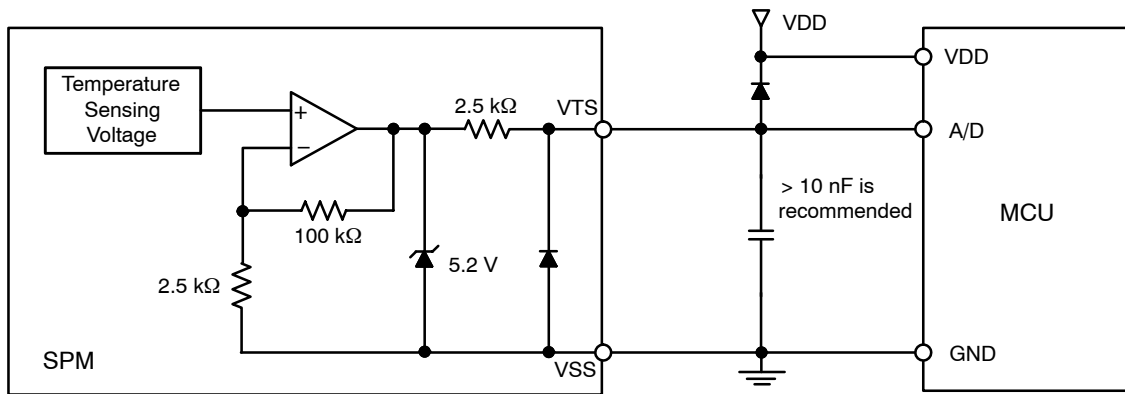

Figure 7. Internal Block Diagram and Interface Circuit of VTS
8. TLVIC is the temperature of LVIC itself. VTS is only for sensing temperature of LVIC and cannot shutdown IGBTs automatically. The relationship between VTS voltage output and LVIC temperature is described in Figure 6. It is recommended to add a ceramic capacitor of 10 nF or more between VTS and VSS (Signal Ground) to make the VTS more stable as described in Figure 7. Refer to the application note for this products about usage of VTS.